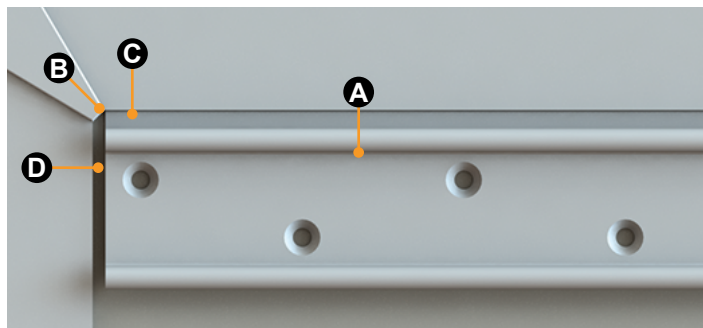
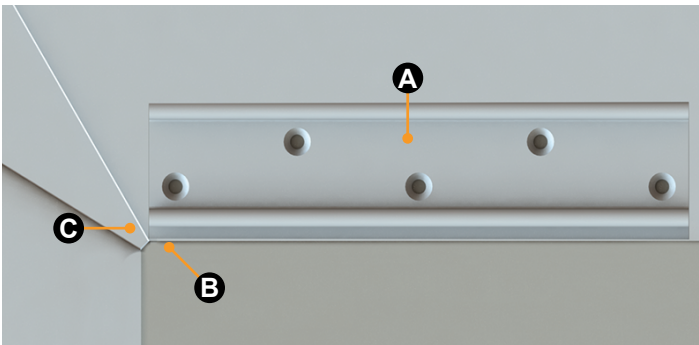

Fig.8
Fig.9
NOTE: If mounting the Solera Slide Topper access plate on the T-molding, see "Installing Solera Slide Topper Access Plate" section (Fig.9), the awning rail must be a minimum of 4 ½" to 7 ½" maximum above the T-molding of the slide room the Slide Topper will cover. The awning rail must be level and parallel with the top of slide room T-molding of the unit.
1. Install the access plate below the T-molding (Fig.8) or on the T-molding (Fig.9).
NOTE: If installing the slide topper access plate on the T-molding, see "Installing Solera Slide Topper Access Plate" section (Fig.9), use the first extrusion from the top of the extension bracket method (Fig.11A).